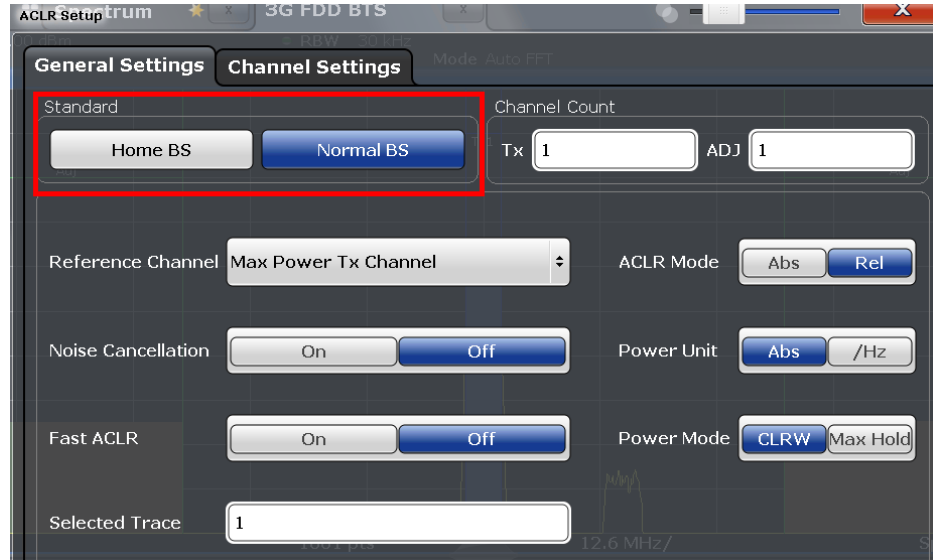
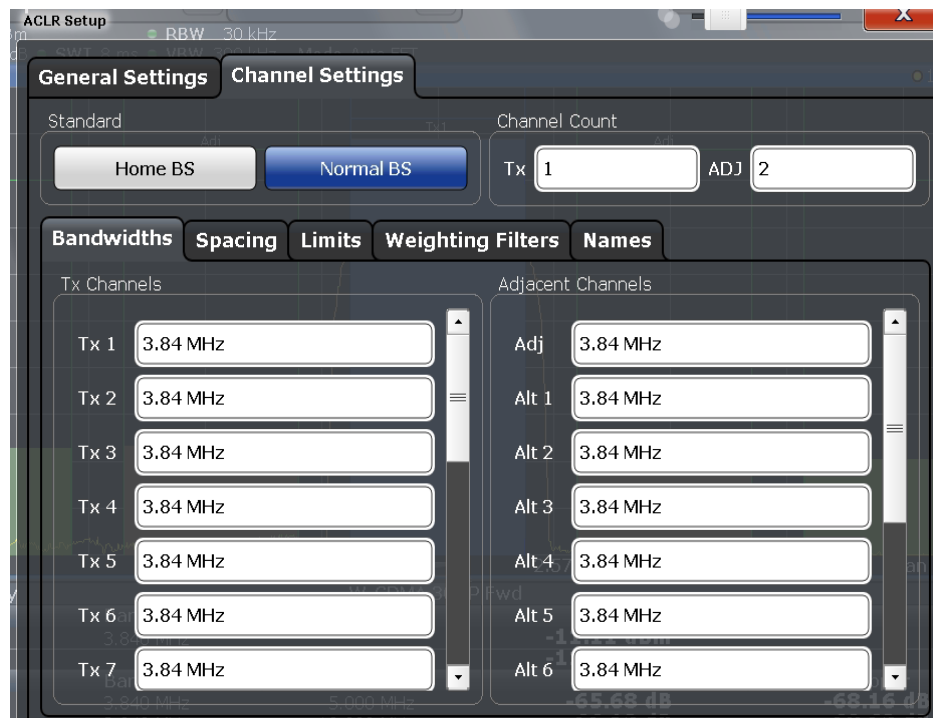

Fig. 3-77: ACLR: general settings
Fig. 3-78: ACLR: channel settings: bandwidth for Tx and adjacent channels
- 2. Set **Standard** of the BS (Home or Normal) (Fig. 3-77)
- Under **CP/ACLR Config** tab, set the corresponding parameters under “General Settings” and “Channel Settings” sections. The measurement for single carrier scenarios automatically takes data such as bandwidth and spacing from the signal description (Fig. 3-77, Fig. 3-78)